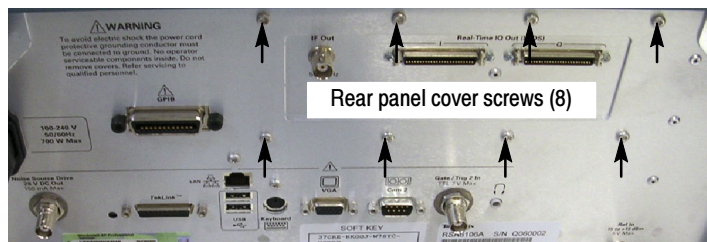

Figure 5: Installing the rear panel cover on the chassis
1. Install the rear panel cover with attached cabling on the rear panel using eight T-15 screws (Tektronix part number 211-1050-XX). Torque these screws to 8.0 in/lb. See Figure 5.